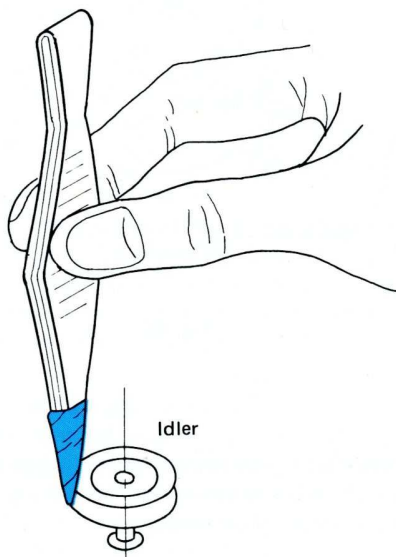

Fig. 44 Cleaning the idler
- d. Make sure that the spring which presses the idler arm against the take-up roller has enough tension and that the idler is not dirty. If it is dirty, clean it with a swab dipped in specified industrial alcohol. (See Fig. 44.)